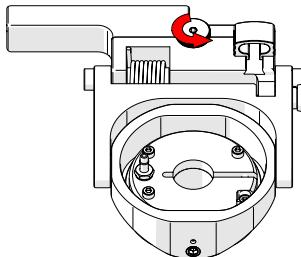

Fig. 136 - Loosen knob
2. Rotate the probe holder adjustment knob (Fig. 136).